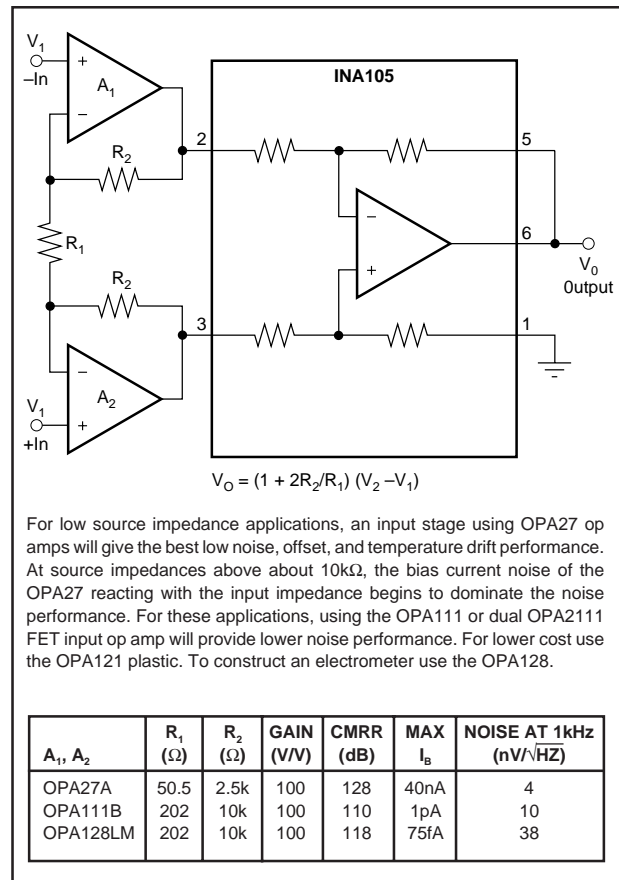

FIGURE 4. Precision Instrumentation Amplifier.
NOTES: (1) Connected as difference amplifier (see Figure 4). (2) Nonlinearity is the maximum peak deviation from the best-fit straight line as a percent of full-scale peak-to-peak output. (3) 25k $\Omega$  resistors are ratio matched but have  $\pm 20\%$  absolute value. (4) Maximum input voltage without protection is 10V more than either  $\pm 15V$  supply ( $\pm 25V$ ). Limit  $I_{IN}$  to 1mA. (5) With zero source impedance (see "Maintaining CMR" section). (6) Referred to output in unity-gain difference configuration. Note that this circuit has a gain of 2 for the operational amplifier's offset voltage and noise voltage. (7) Includes effects of amplifier's input bias and offset currents. (8) Includes effects of amplifier's input current noise and thermal noise contribution of resistor network.